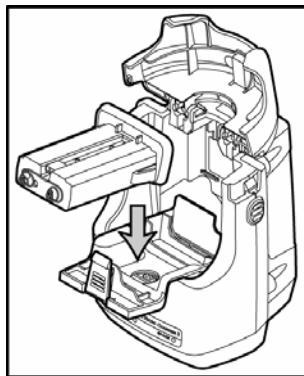

Figure 2. Inserting the Battery Pack Into the battery tray
Insert the battery pack with the circuit board positioned up. The battery pack will not charge if inserted incorrectly. Refer to Figure 2.
3. With the battery pack's circuit board positioned up, gently drop the battery pack into the battery tray. Ensure the battery pack charger contacts are positioned to match the label inside the charger. Refer to Figure 2.